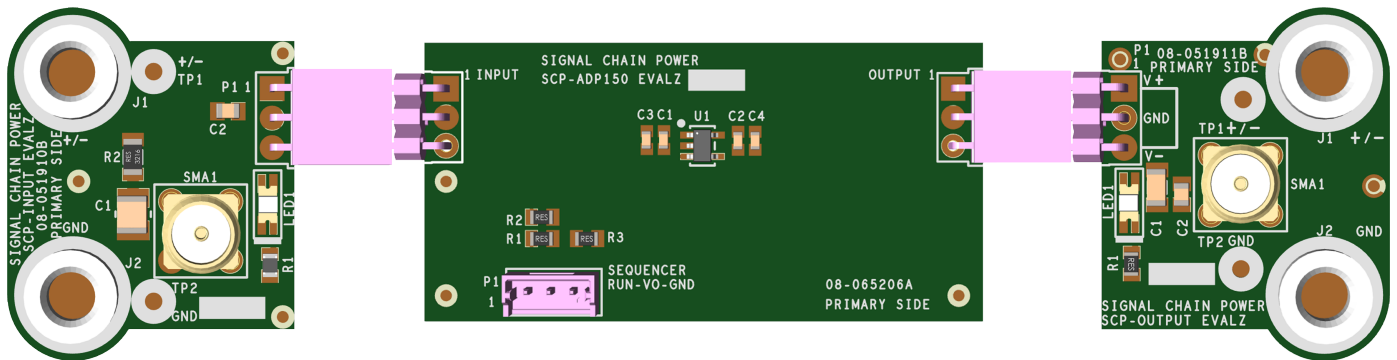

Figure 2. Proper Measurement Equipment Setup (Use SMA connectors for Measuring Input or Output Ripple)
1. Connect the SCP-INPUT-EVALZ and SCP-OUTPUT-EVALZ boards to the SCP-ADP150-EVALZ (refer to Figure 2) and connect the input board to a voltage source, V_{SOURCE} . Connect the output board to a voltmeter or dynamic load. Slowly raise the input voltage until the SCP-ADP150-EVALZ powers up into regulation and sweep V_{SOURCE} through the desired range of operation.